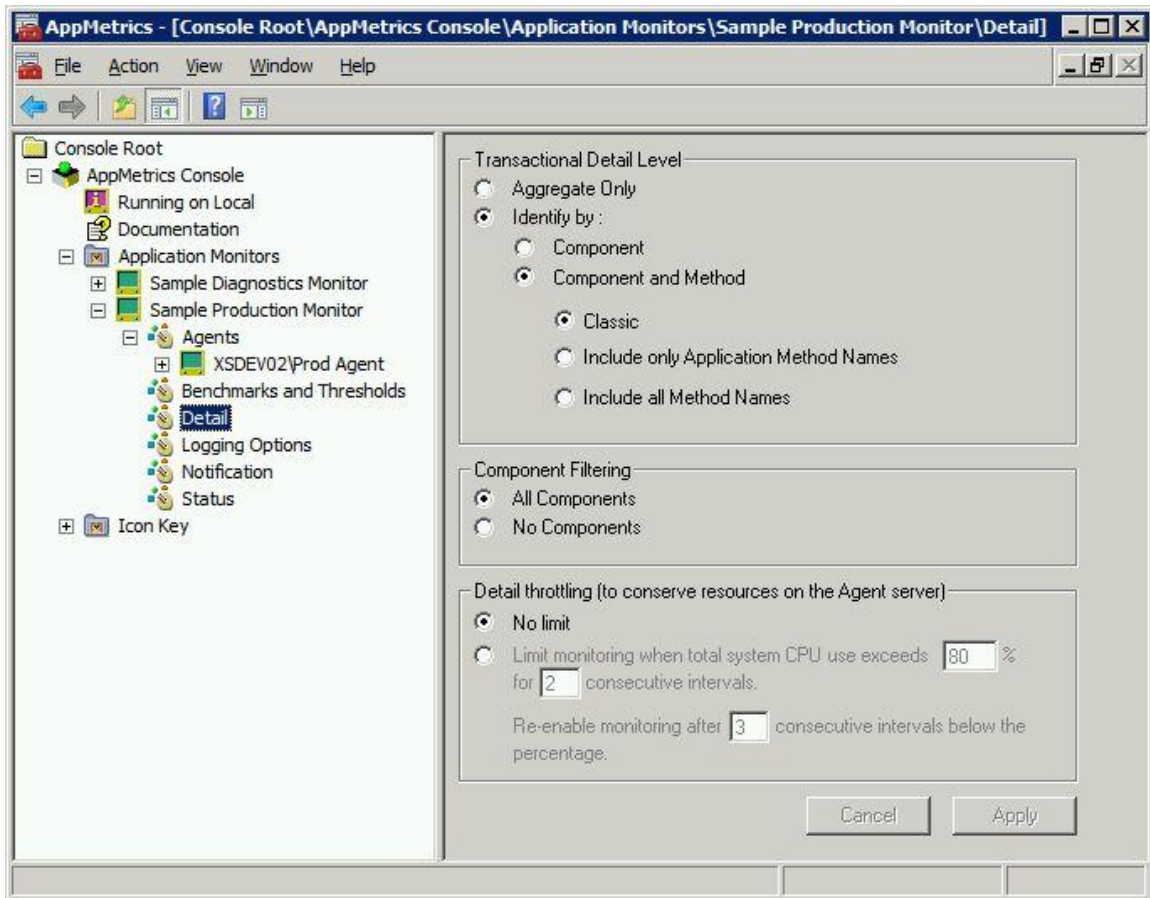

Figure 3-32 Transactional Detail Level Configuration View
- This function is only available when the *Transactional Detail Level* Configuration View(Figure 3-32) is set to either *Identify by Component* or *Identify by Component and Method*.
- This function is only available when the *Transactional Detail Level* (in the **Transactional Detail Level Configuration View**, Figure 3-32) is set to either *Identify by Component* or *Identify by Component and Method*.
- If the **Component Filtering** is set to **No Components** in the **Transactional Detail Level Configuration View** (Figure 3-32), no component metrics can be configured.
The table below describes the settings for **Detail Throttling for COM+ Production Monitors** (see Figure 3-32) and their effect: